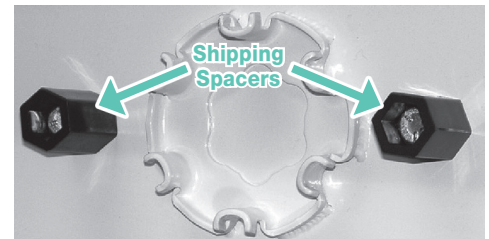

Figure 1
10. After headbox is mounted, and before operating shade, you **MUST** remove shipping spacers from inside headbox. First, remove closure panel (*see Page 5*). Find the hexagonal spacers on the motor end — one in front of roller and one behind (*Fig. 1*). Remove these spacers with a $\frac{1}{16}$ " wrench, taking care not to damage fabric or loosen wiring (*see caution note below*). Replace closure panel.